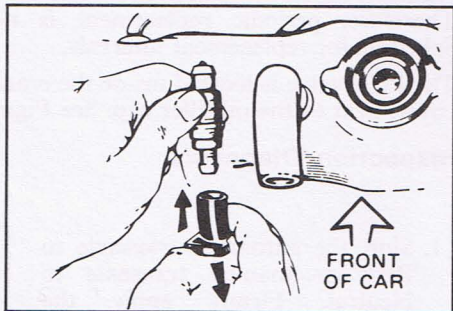

Figure 3 - PCV valve removed
3. Separate the PCV valve from its hose by holding the hose steady and pulling the PCV valve with a twisting motion. See Figure 3.